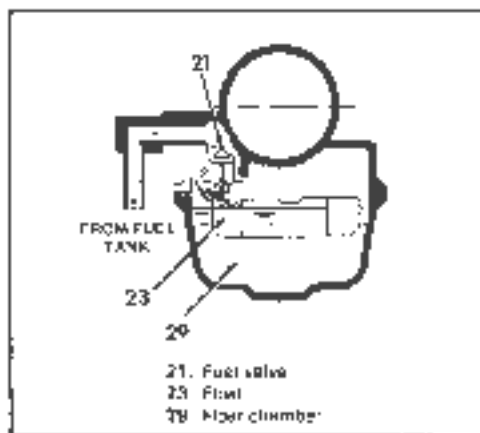

Figure 3-74 Carburetor Float System
Late 1971 models have extra holes in accelerating pump shaft to provide more or less fuel upon accelerator operation hole for pump shaft pin (37, Figure 3-74) provides outlet venting - top hole - adjust setting.
The float system is shown in Figure 3-74. Fuel from gas can't pass through fuel valve (21) into float chamber (28). The fuel entering causes float to rise until it shuts off fuel valve, stopping flow at a level pre-determined by float level setting.